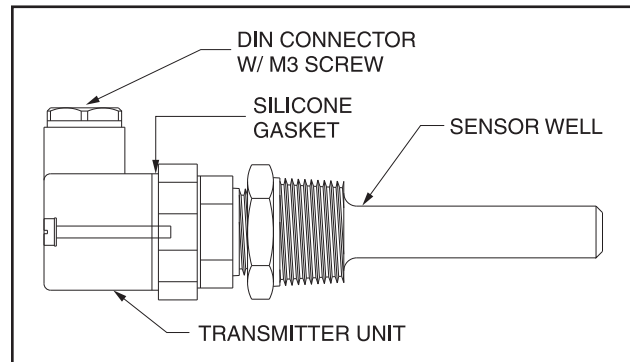

Figure 31 - Temperature Transmitter
2. Remove DIN connector plug from transmitter. See Figure 31.